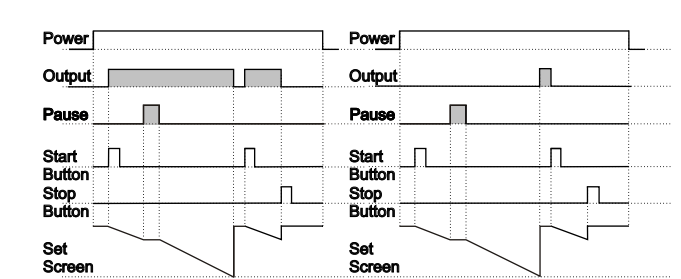

Figure 1.1, Figure 1.2
1.1.1 If downcount **dEc**=1 and **outf** is **on** the control diagram is shown in Figure 1.1